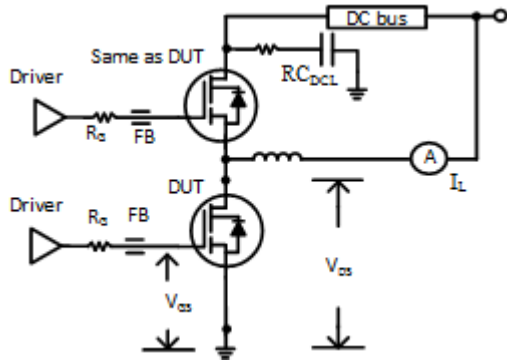
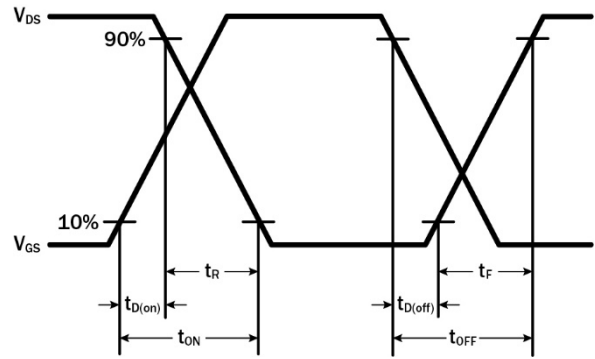

Figure 17. Switching Time Test Circuit
Figure 18. Switching Time Waveform
1. Dynamic R_{DS(on)}, 100% tested; see Figure 17 and Figure 18 for conditions.